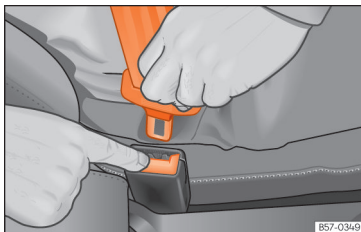

Fig. 27 Release the seat belt's latch plate.
- Press the red button on the buckle »» Fig. 27. The latch plate is released from the buckle.